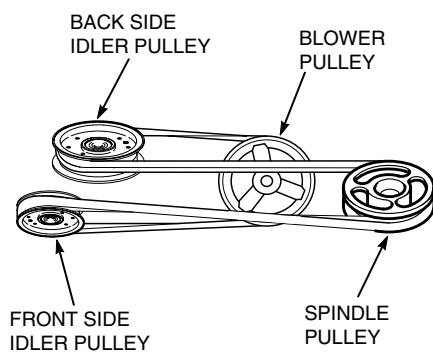

FIGURE 3-5
10. Install the belt to the spindle pulley. When replacing the belt, see figure 3-5 below.